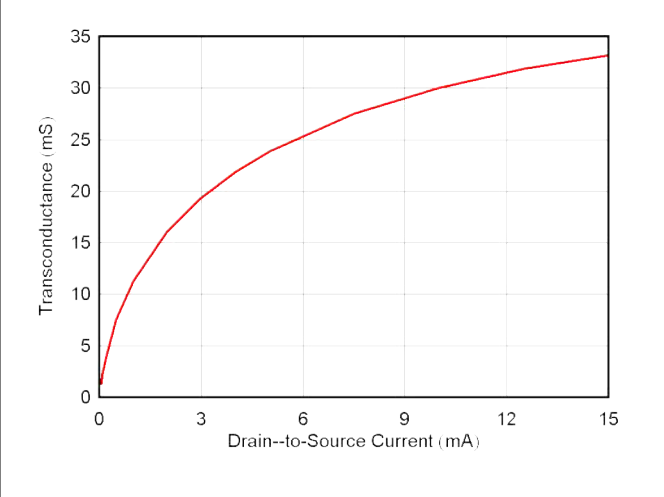
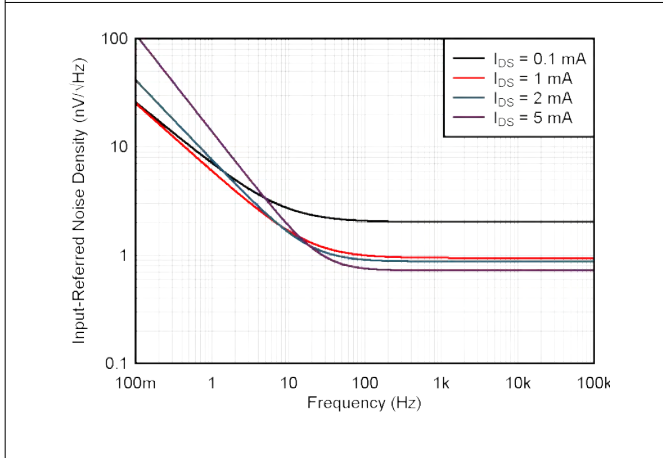
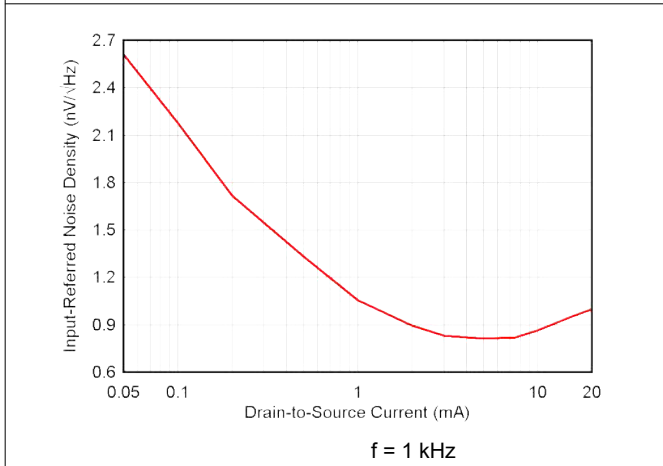
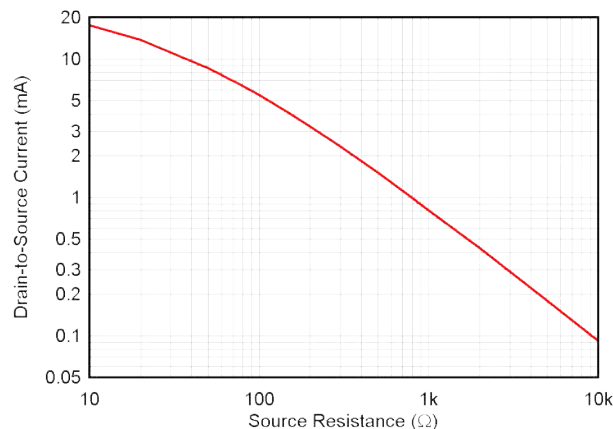

Figure 6-4. Common Source Transconductance vs Drain-to-Source Current
Figure 6-9. Input-Referred Noise Density vs Frequency
Figure 6-11. Input-Referred Noise Spectral Density vs Drain-to-Source Current
Figure 9-3. Drain-to-Source Current vs R_S , $V_{DS} = 5 \text{ V}$
Designs that feature operational amplifiers (op amps) as the primary gain stage are common, but these designs are not able to achieve the lowest possible noise as a result of the inherent challenges and tradeoffs required from a full operational amplifier design. Noise in JFET designs can be evaluated in two separate regions: low-frequency flicker noise and wideband thermal noise. Flicker, or $1/f$ noise, is extremely important for systems that require signal gain at frequencies less than 100 Hz. The JFE150 achieves extremely low $1/f$ noise in this range. Thermal noise is noise in the region greater than 1 kHz and depends on the gain, or g_m , of the circuit. The g_m is a function of the drain-to-source bias current; therefore, thermal noise is also a function of drain-to-source bias current. Figure 6-9 shows both $1/f$ and thermal noise with multiple bias conditions measured using the circuit shown in Figure 7-1.
Generally, higher gain results in improved noise performance. Gain increases as the bias current is increased as a result of increasing gm (see Figure 6-4). As a result, the input-referred noise decreases as bias current is increased (see Figure 6-9). Any JFET design must make a tradeoff between current consumption and noise performance. The JFE150, however, delivers significantly lower noise performance than most operational amplifiers at the same current consumption. The bias current (I_{DS}) is set by the value of the source resistor, R_S , and the threshold voltage, V_T , of the JFE150. Figure 9-3 is a graph showing nominal I_{DS} vs R_S .
R_S	Source resistor. Used to set bias of JFET; see Figure 9-3. Resistor thermal noise directly impacts noise performance.
- The JFE150 bias current is set by selecting the desired bias current and noise tradeoff (see Figure 6-11). The input-referred noise is dominated by the JFE150 bias current and gain. To set the bias current point, adjust the source resistance according to Figure 9-3.